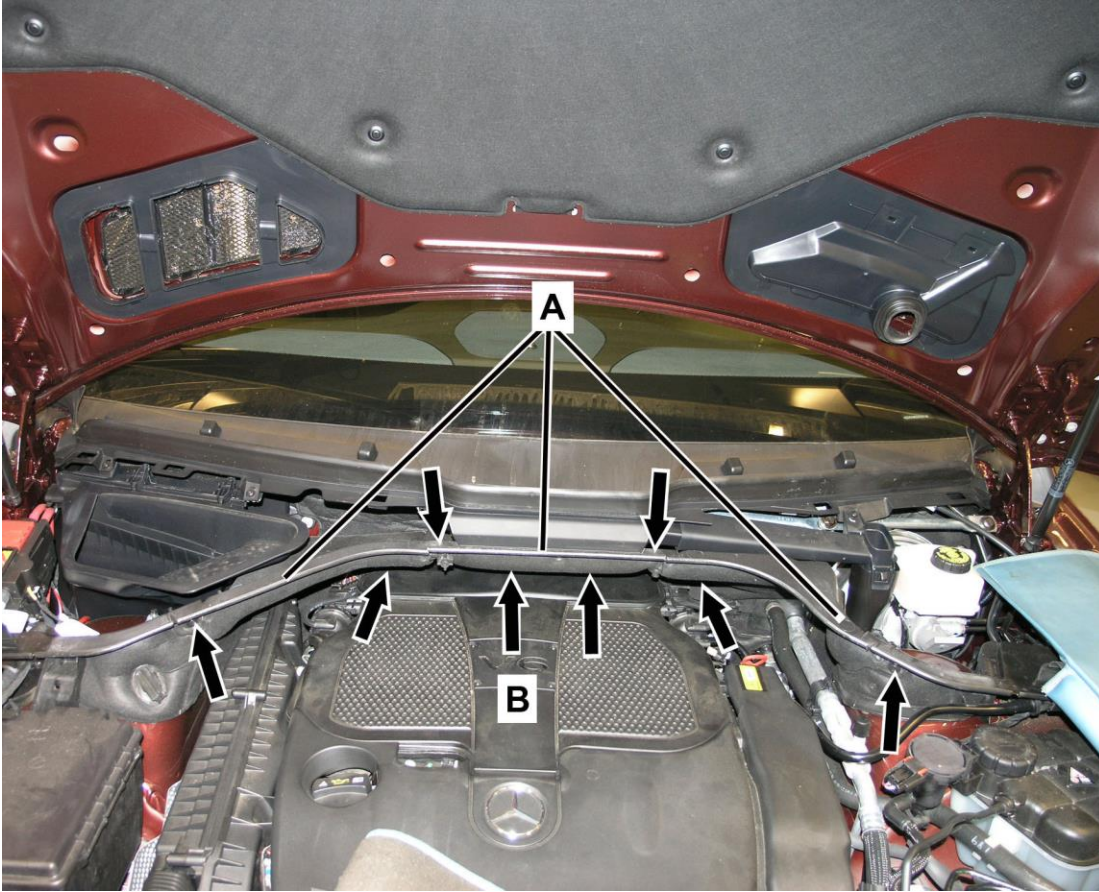

Figure 3
- Remove wiper arms (1, Figure 3), refer to WIS: AR82.30-P-6100GZ.
- Detach rubber seal (2) from cover (3).
- Remove covers (4).
- Remove bolts (5).
- Remove water channel (6).
- Detach water collector (8) with washer hoses (7) attached and place to left side of vehicle (outside of fender).
4. Remove screws/bolts (arrows, Figure 3) and cable tie then remove bulkhead assembly sections (A).
5. Remove intake manifold cover (B, Figure 3), refer to WIS: AR09.20-P-1961GQ steps 1 – 19.